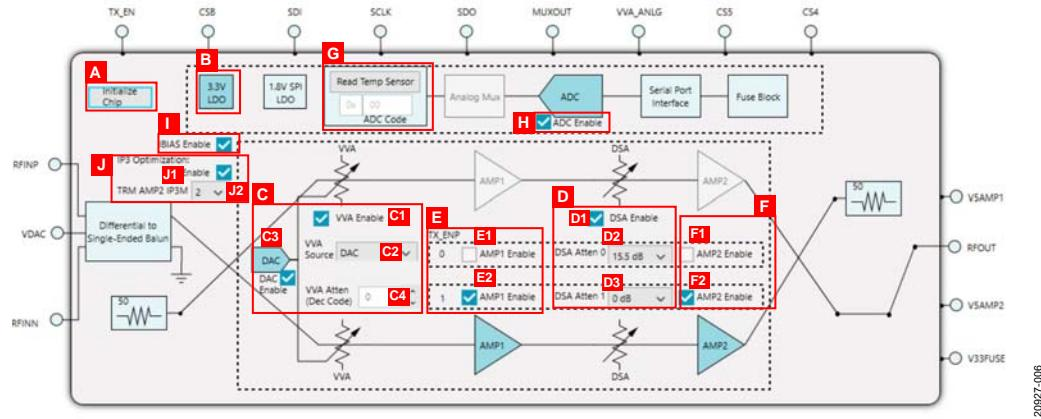

Figure 6. ADL6317 Chip Block Diagram
2. Click **Initialize Chip** (Label A, see Figure 6).
3. Click and adjust the blocks in **Label B** to **Label H**, as shown in Figure 6, if necessary.
Table 2. Main Screen Functionality (see Figure 6)